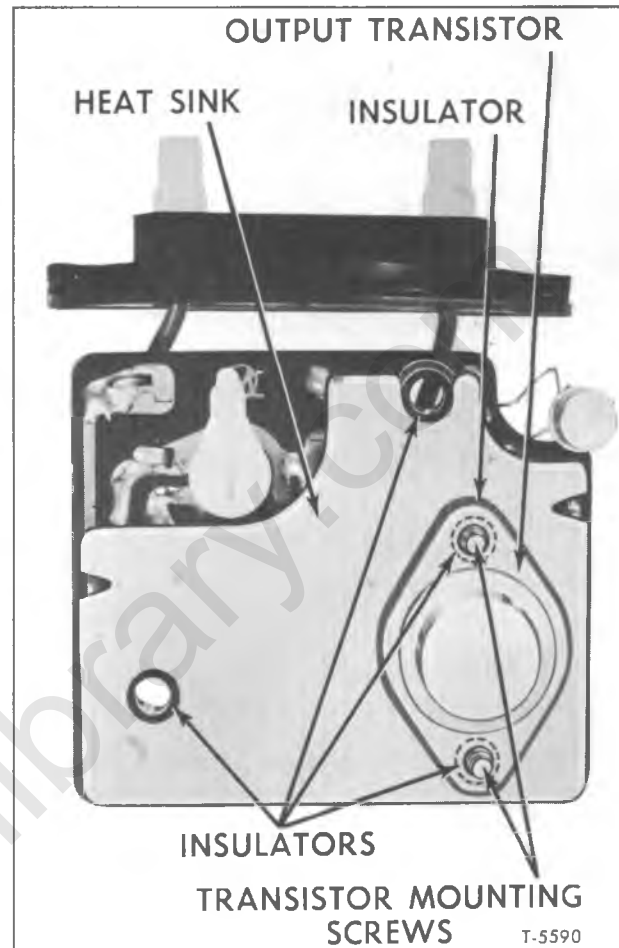

Figure 22—Heat Sink and Circuit Board Assembly
4. Note the insulation between the output transistor and heat sink, and the insulators separating the heat sink from the panel board (fig. 22).
If a component part on the panel board is found to be faulty, it should be replaced before proceeding with the remaining checks. A 25-watt soldering gun is recommended, and a 60% tin 40% lead solder should be used when re-soldering. Avoid excessive heat which may damage panel board traces. Component parts are identified in figures 22 and 23.
**NOTE:** Refer to figures 22 and 23 for identification and location of following connections: